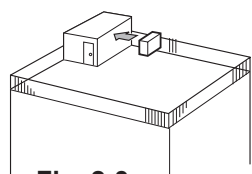

Fig. 2-3
- ① Face the air outlet towards the nearest available wall about 50 cm away from the wall. (Fig. 2-3)